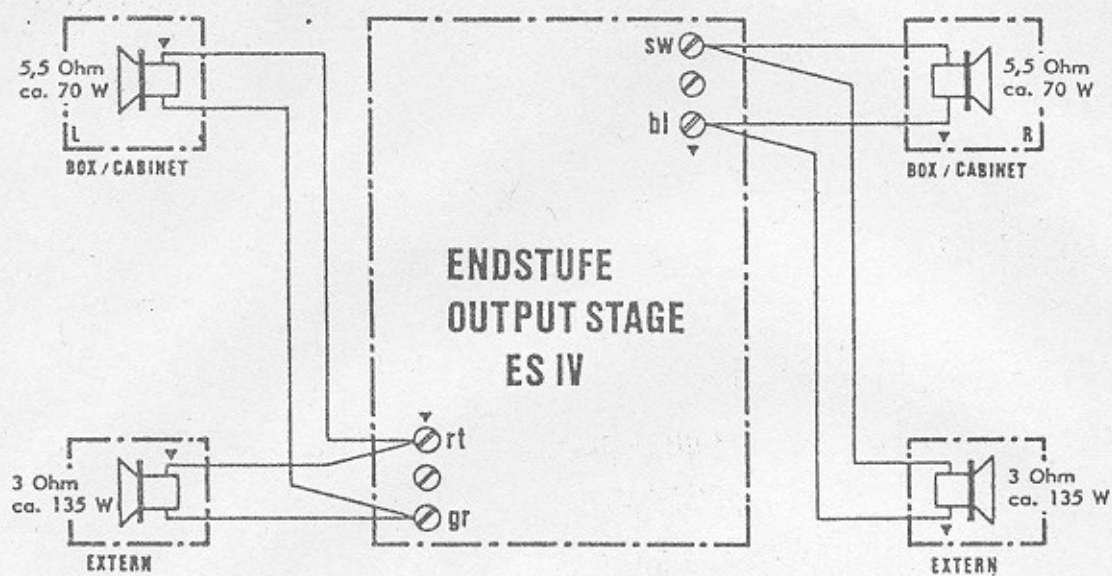

FIG. 1
**CD-Changer (Fig. 1):** In order to avoid movement of the lift (Attract mode) the cabinet switch has to be pulled out. Now the device is in service mode. In addition, the CD will be returned when it remains on the player after the last track (see also: CD-Changer "Return Holder").
Therefore, additional loudspeakers can be connected (Fig. 1).